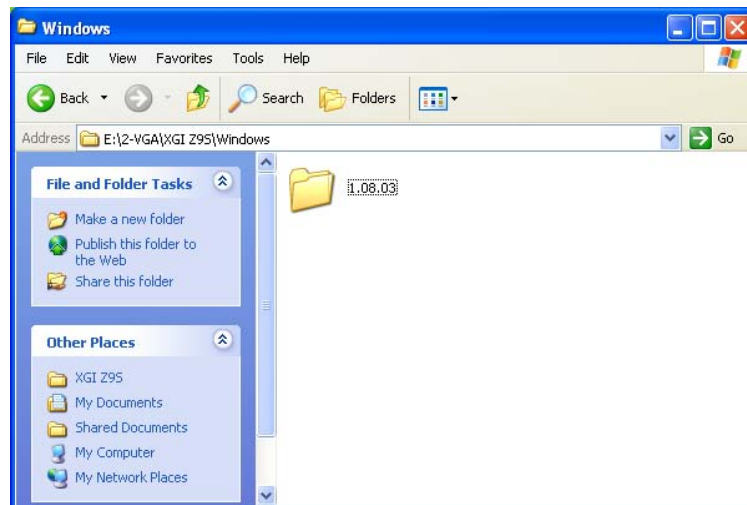

Figure 8-13: VGA Driver Revision Directory Icon
Step 4: The screen in **Figure 8-13** appears.
Step 5: Select the operating installed in the system from **Figure 8-13**.